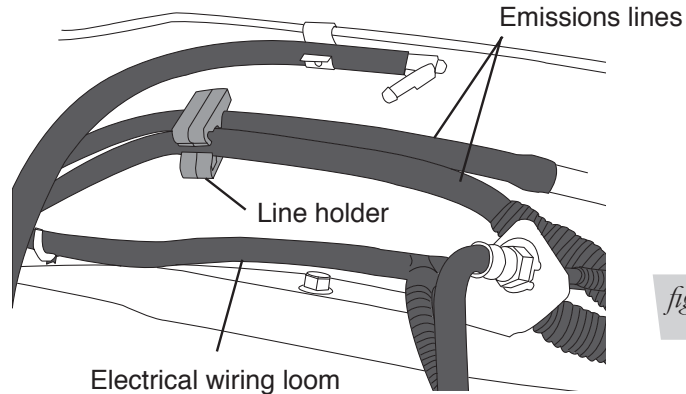

fig. 4
Gas engine models have emission lines on the inside of the frame. If your model truck has emission lines running along the inside of the frame rail (Fig. 4), it will be necessary to relocate those lines as follows:
- Carefully push the line holder out of the frame above the axle. Try to minimize damage because it will be reused later. It may also be helpful to remove any holders forward or rearward of the axle to aid in positioning the lines once the upper brace has been installed (Fig. 4).